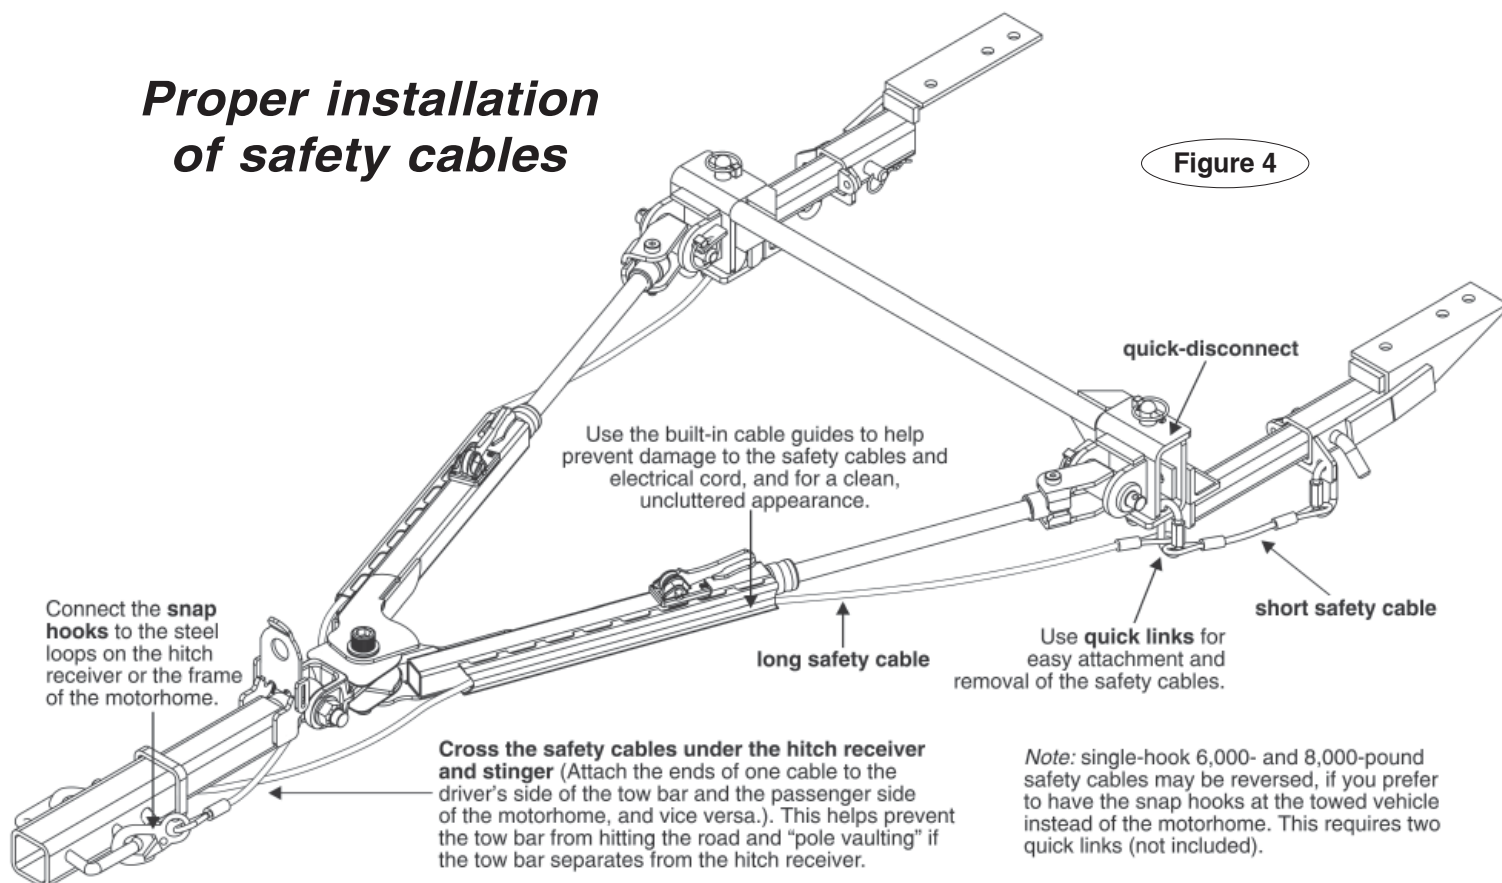

Figure 4
- Always cross the cables under the hitch receiver, as shown in Figure 4 under "Proper installation of safety cables." In the unlikely event the tow bar separates from the motorhome, crossing the cables will help prevent the tow bar from dragging on the ground, which can cause the tow bar to "pole vault" the towed vehicle.
Some ROADMASTER tow bar mounting brackets with removable arms, such as the ones in Figures 4 and 5, use both a long safety cable and a short safety cable on each side.
If your towing system requires two sets of safety cables, always use both the long and the short safety cables. Connect them as shown in Figures 4 and 5. Otherwise, in the event of a towing system failure, the towed vehicle will detach, which may cause property damage, personal injury or even death.